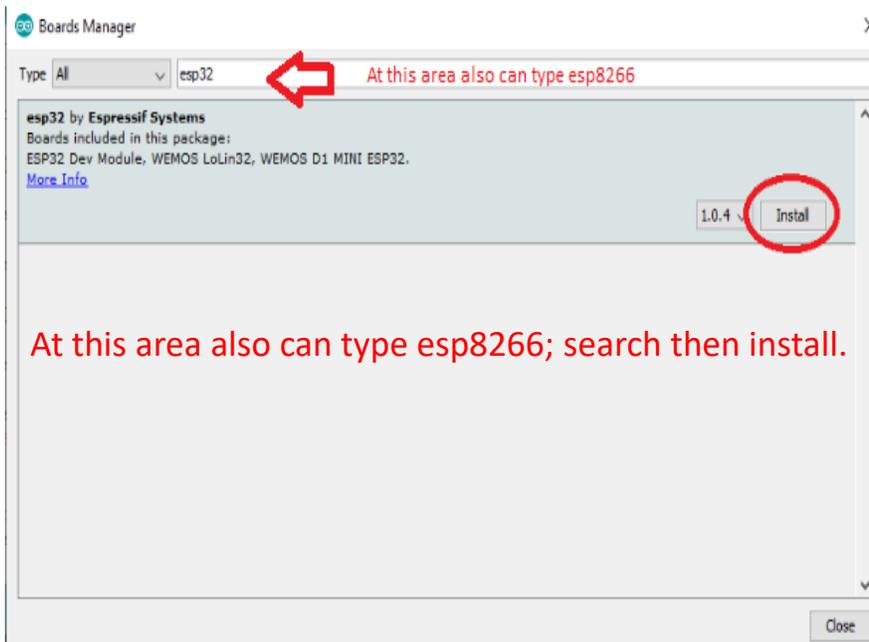

Figure 2.19: Step 4 Installing ESP32 or ESP8266
- Refer Figure 2.19, at the a Board Manager type for ESP 32 OR ESP8266.